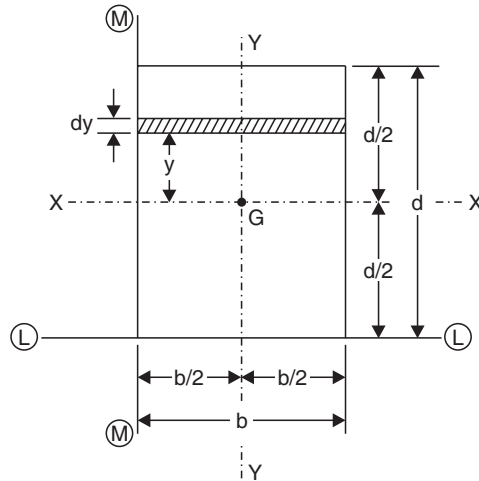

Fig. 5.9
**1. Rectangular lamina.** Refer to Fig. 5.9. Let a rectangular lamina be  $b$  units wide and  $d$  units deep.